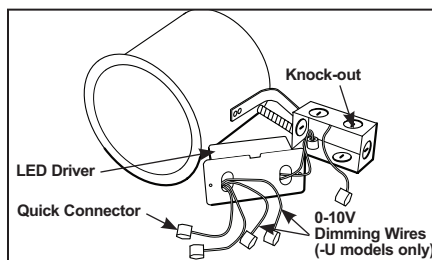

Figure 5
**Step 2.** Remove junction box cover. Remove the appropriate knock-out(s) to accommodate the type of electrical supply being used. (Fig. 5)
**Step 3.** Strip supply wire 3/8" and insert each supply wire into appropriate connector. Connect black fixture wire to hot, white fixture wire to neutral and green fixture wire to ground. (Fig. 5).
**Step 4.** Open junction box to access wiring. (Fig. 5)